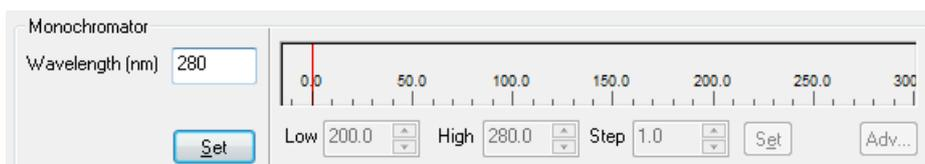

Figure 2.25: the Monochromator panel for fluorescence polarisation
6) On the **Monochromator** panel (Figure 2.25) enter the selected excitation wavelength. A slit width of 2 mm is normally recommended for fluorescence polarisation measurements.